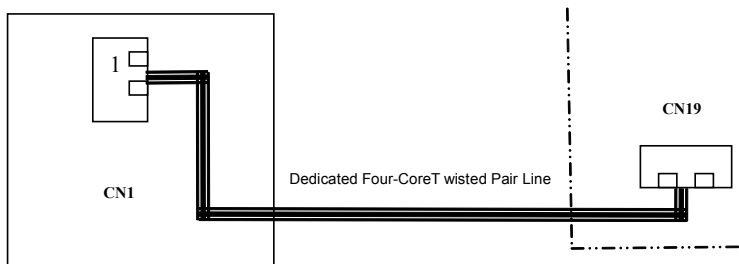

Fig.9 Connection of the Power and Communication Lines of the Wired Controller
When connect the main board and the display board, as shown in Fig.9, just insert the four-core twisted pair line derived from CN19 of the main board to the terminal CN1 on the display board. Prior to the connection, remember that the power supply has been cut off. And after the connection, please check if the connection is in good condition and ensure that there is no short circuit along the power cord. There are totally four lines for the controller: they are the grounding line (GND), communication line A (A), communication line B (B), and power line (+12V) respectively.